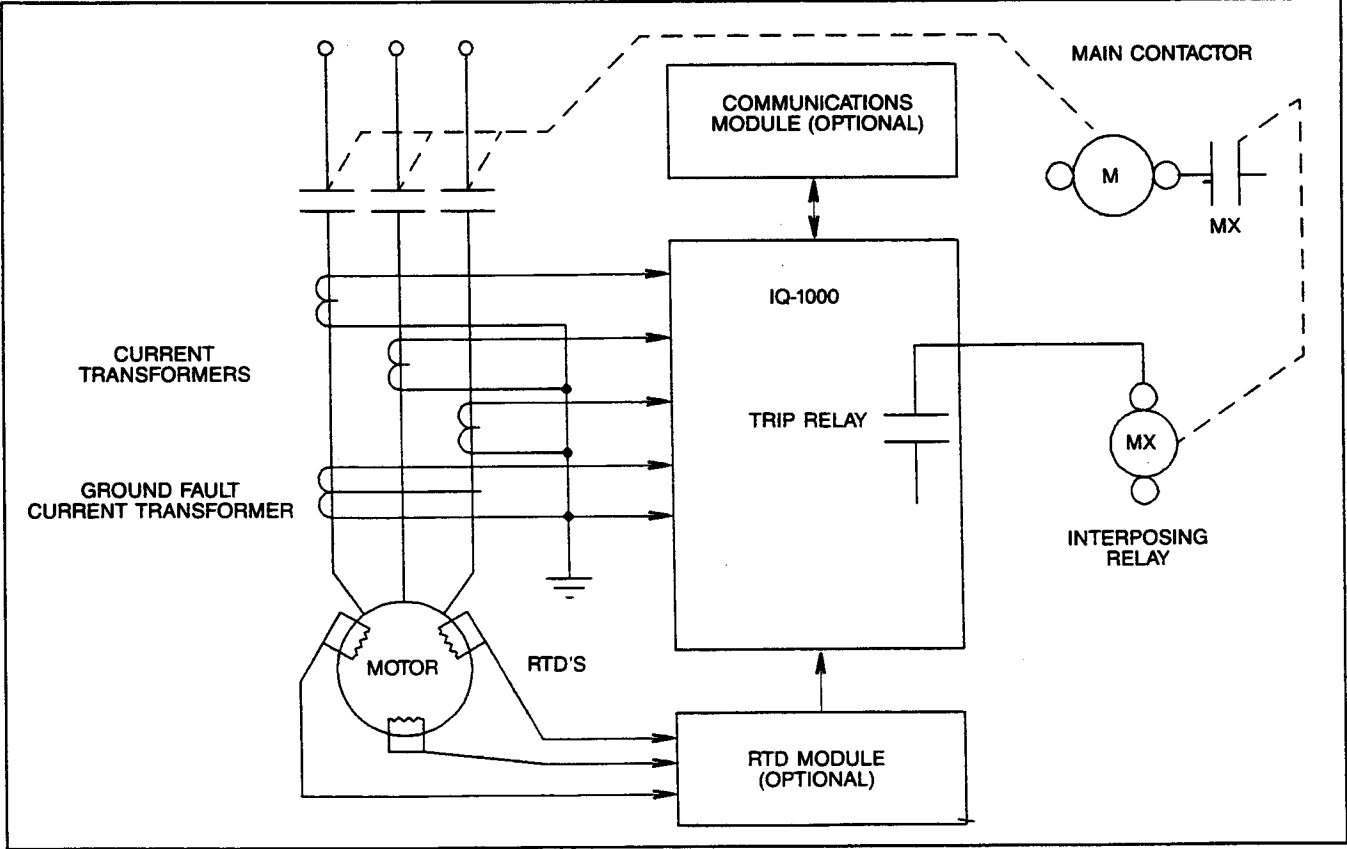

Figure 3.1 — System Overview (Simplified)
3.1 Sensing Inputs — The IQ-1000 receives information about motor current levels, and, optionally, may also receive feedback on ground fault current levels and actual motor operating temperature data. (See Figure 3.1.) Motor current is derived from 3 separate current transformers, each of which monitors one phase of an AC line to the motor. If an optional zero sequence ground fault transformer is used, the IQ-1000 can monitor ground fault current levels and compare them with a user-selected set point. If optional RTDs are used, the